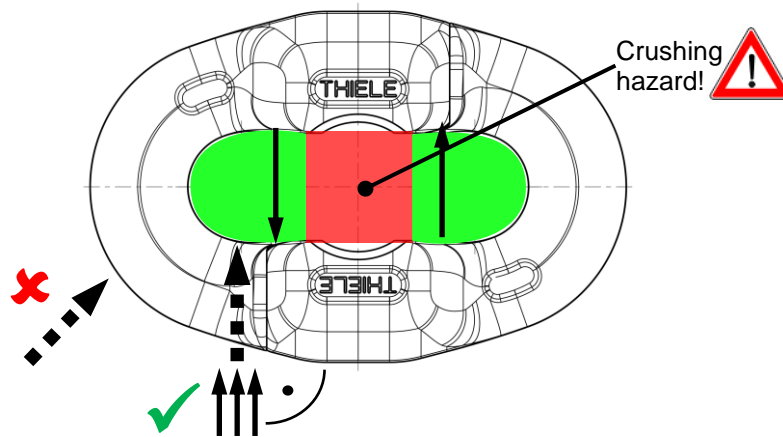

Figure 1: Open the pre-assembled connector
- Open the connector by sliding the halves apart. Hitting the connector side vertical on a flat massive surface simplifies this (the 3 bottom arrows in Figure 1 show the best hitting area). Take care, that nothing is in the opening area when the connector opens (Figure 1)!